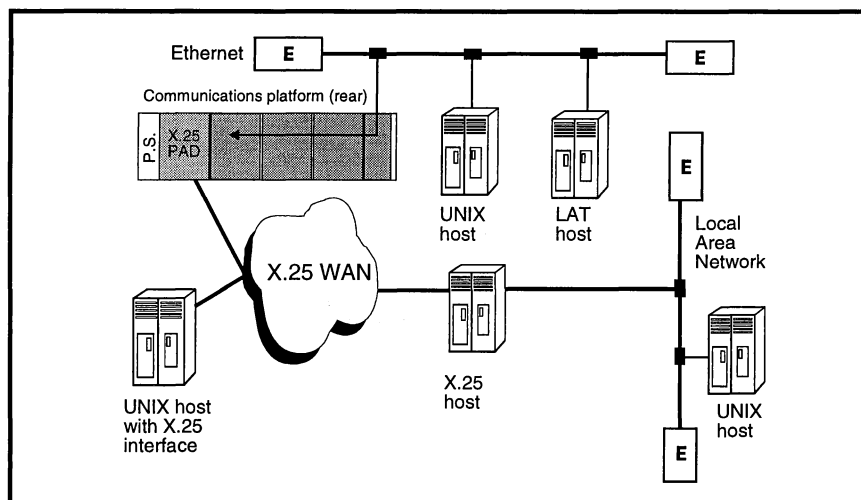

Figure C-1. UNIX users exchange packets via X.25 WAN
IP-over-X.25 packet encapsulation software on the X.25 PAD card expands the X.25 connectivity structure to users of IP. It permits transmission of Internet Protocol (IP) data packets over X.25 Wide Area Networks (WANs). Routing IP datagrams through X.25 WANs enlarges the population of hosts accessible to IP users logged into the X.25 PAD card in a Communications Server. See figure C-1.